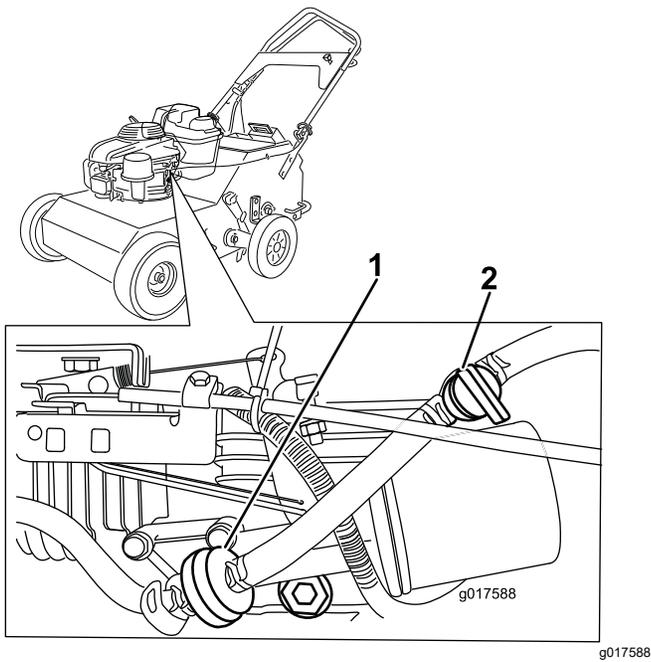

Figure 12
2. Open the fuel valve by turn it in-line with the fuel hose (Figure 12).